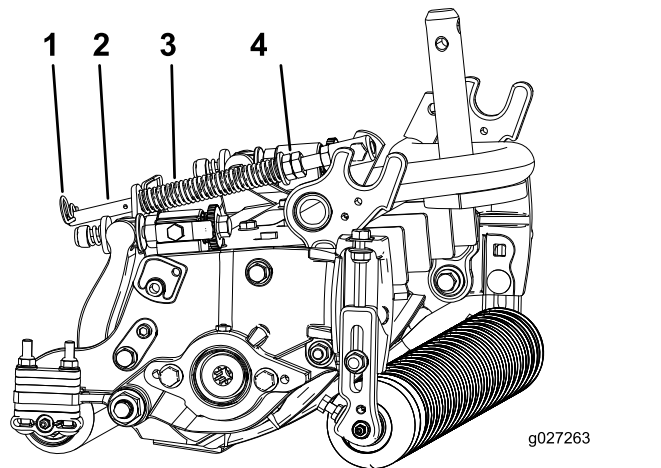

Figure 14
1. Make sure that the hairpin cotter is installed in the rear hole in the spring rod (Figure 14).
2. Tighten the hex nuts on the front end of the spring rod until the compressed length of the spring is 12.7 cm (5 inches); refer to Figure 14.